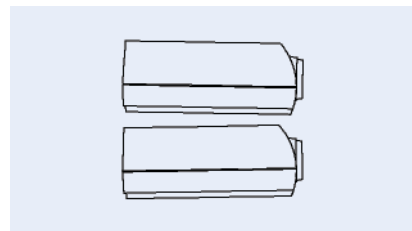

figure B.3-3 (no lens-shift)
**!** If your projectors have no lens-shift, you need to position the lower projector to point slightly up, and the upper projector slightly down. (See **figure B.3-3** on the right).